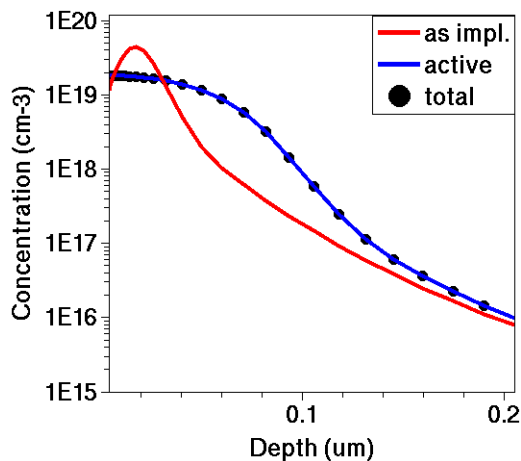

Figure 2 Comparison of as-implanted and annealed arsenic profiles
**Figure 2** compares the as-implanted and the annealed arsenic profiles. It is generated by loading both .plx files into Inspect with: